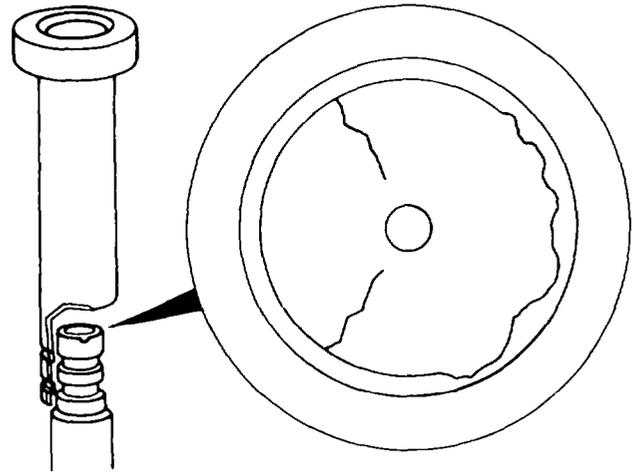

Figure 82 — Link Socket Seat — Inspection
- a. Inspect the plunger link socket seat as shown in Fig. 82 for cracking or broken walls. If the seat is cracked or broken, replace the plunger and barrel.